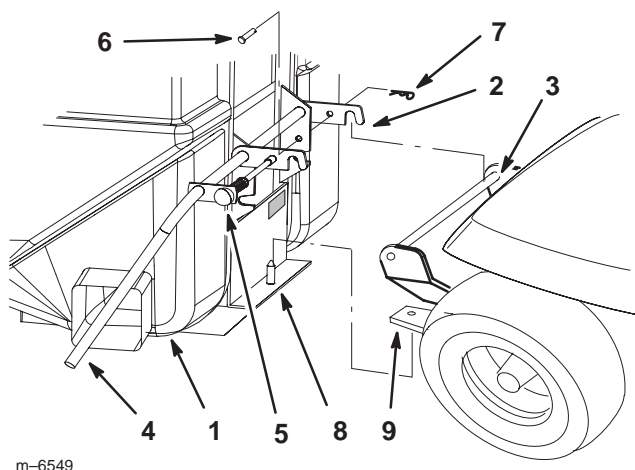

Figure 11
4. Place the quick hitch hooks, on the collector, over the quick hitch round bar (Fig. 11).
5. Pull the hitch lever up. This will raise the hopper and engage the collector pin into the hitch extension (Fig. 11).
6. Pull the locking pin out to allow the collector to be raised into full upright position (Fig. 11).
7. When the collector is in upright position, release the locking pin and lock the collector into position (Fig. 11).
8. Secure left side hitch hook with a clevis pin (3/8 x 1-1/2 in.) and a hairpin cotter pin (Fig. 11).